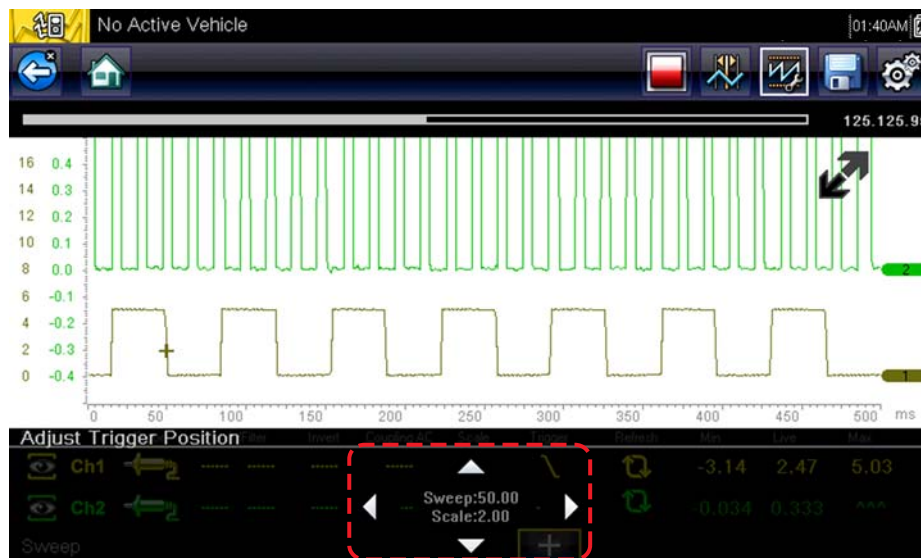

Figure 8-11 Trigger controls
- Once the slope is determined, select the plus sign (+) at the bottom of the information window. The trigger adjustment controls open (Figure 8-11).